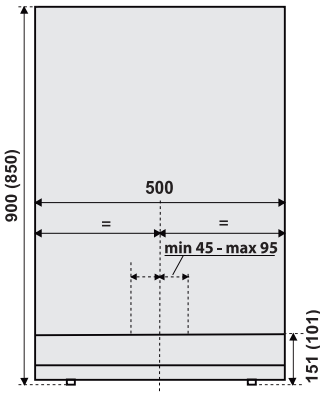

Figure 2
Please refer to Figure 2, illustrating the appliance's built-in dimensions, with angle bracket installed and adjustable feet fully retracted.
- Use a pencil to mark the middle of the appliance on the wall, through the opening in the lower part of the appliance. Then, make another mark 45 to 95 millimetres to the right of the middle (Figure 2).